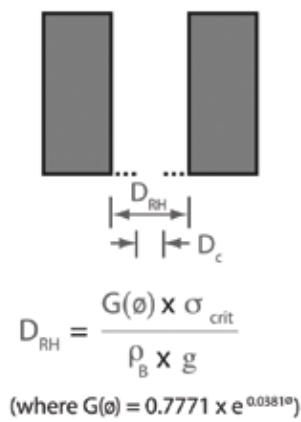

Figure A-2a: 'Rat-hole'
'Rat-holing' (shown in Figure A-2a) is the principle flow obstruction in a core-flow vessel, where the powder in the flow-channel above the outlet discharges leaving a stable internal structure.
- **Estimated Critical ‘Rat-hole’ diameter in [m]:** The minimum outlet diameter to prevent the formation of a stable ‘rat-hole’ in a core-flow vessel. The outlet diameter is calculated using the rat-holing equation in Figure A-2a. Refer to the help files on Rat-hole diameter in the Power Flow Pro software.